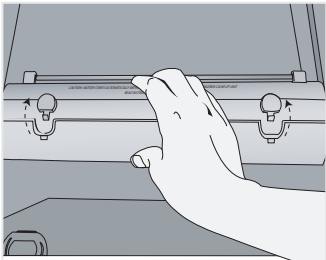

Fig. 14
- Hold rake with both hands and align the two indentations on the rake with the two buttons on the motor housing (Fig. 14).
- Push rake into the motor housing until it snaps into place both on top and on the bottom of the rake (Fig. 14 and 15).